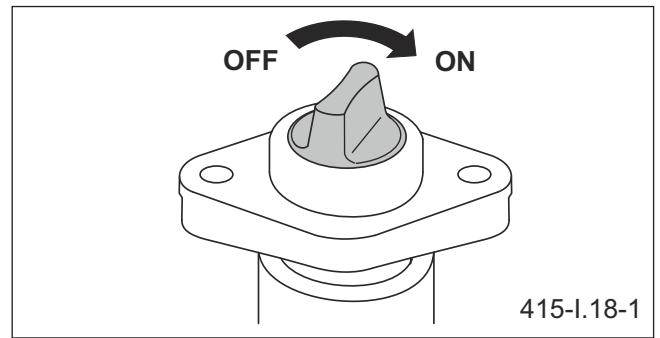

Figure 5.17 Main switch of control panel (ON) turned on (OFF) turned off
In order to fill the tanks with brine (Figure 5.17) through connection (2):
Turn main switch (Figure 5.17) clockwise to (ON) position - switched on (the switch is installed on the control panel power lead).